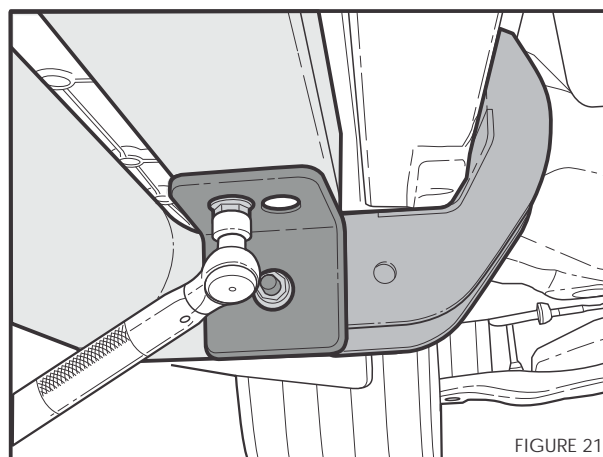

FIGURE 21
- Using a 13mm socket, torque M8 nuts to 22 Nm as shown in Figure 21.